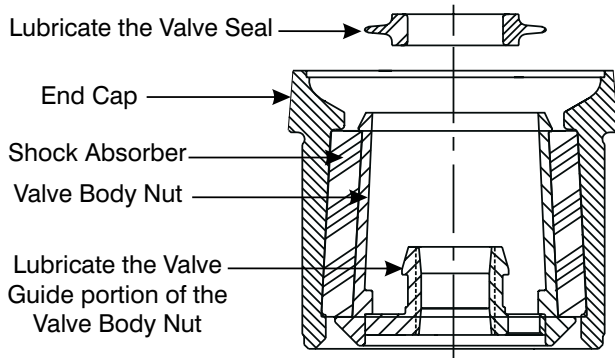

Figure 9-5. Lubricate the Valve Seal and the Valve Body Nut.
18. Turn the End Cap (10) so the threaded end is down as shown in Figure 9-5.
- 19. Look inside the non-threaded end of the End Cap for a central hub. This hub is the valve guide portion of the Valve Body Nut (12). Lubricate the surface of this hub as shown in Figure 9-5.